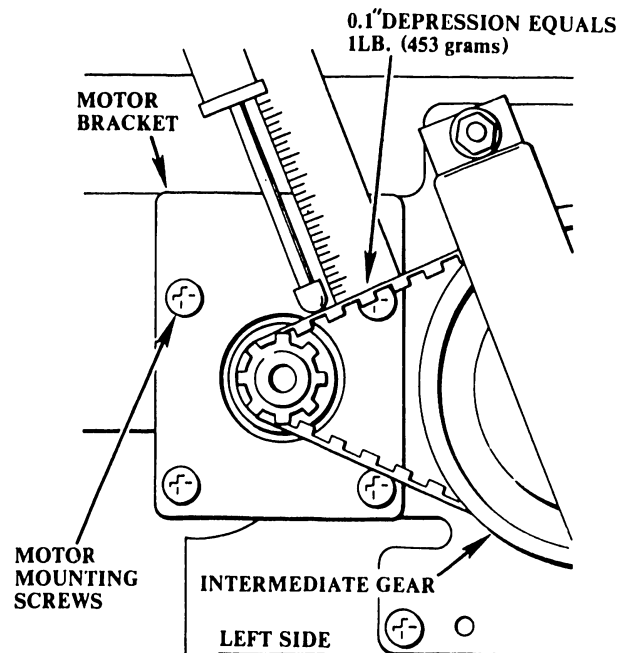

FIGURE 6-34 PAPER MOVEMENT GEAR BELT ADJUSTMENT
- 1) Check the paper sprocket-drive gear for maximum backlash of 0.030" (0.076 cm) (see Figure 6-33), by holding the intermediate gear immobile. (See Figure 6-34.)
- 2) With Stepping Motor Timing Belt depressed 0.1" (0.25 cm), the scale should read 1 lb (453 grams). (See Figure 6-34.)
- 2) Loosen the four screws (see Figure 6-34) holding the stepping motor to the motor bracket. Move the motor in appropriate direction for a 0.1" (0.25 cm) belt depression (a scale reading of 1.0 lb) and tighten the four screws for correct timing belt tension.